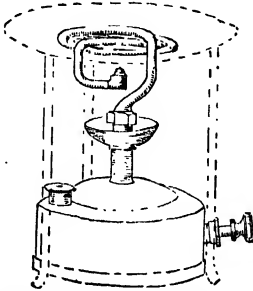

Fig. 487.—Blue-flame Oil Stove.
**Oil Stoves: Blue-flame.**—Fig. 487 gives a general idea of the Primus (blue-flame, wickless) oil stove, the burner of which, for cleaning purposes, may be said to consist of two parts, namely, the tubular burner, and the nipple in the burner from which the vaporised oil issues. The nipple may be blocked with particles of carbonised material, and this can be cleared with the cleaning-pin sent with the stove or with a fine needle point. If the point of the cleaning-pin becomes broken in, the nipple must be removed and either the pin got out or a new nipple put in. A new nipple is necessary if the hole in the old one has become too large. With stoves Nos. 0